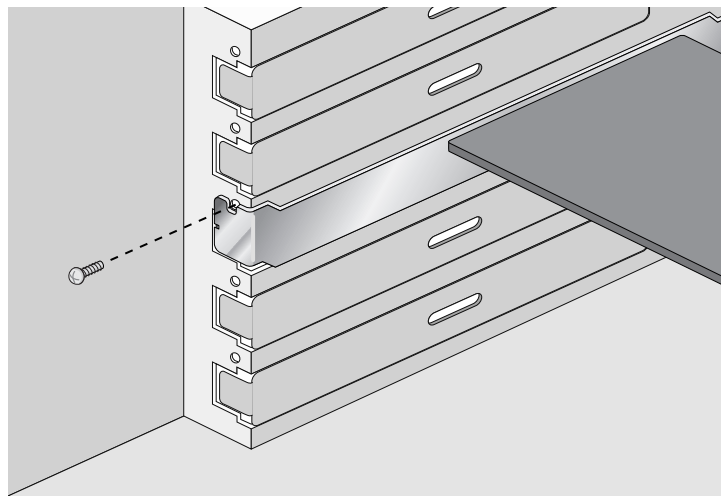

Figure 15. Securing the Network Adapter
6. Secure the network adapter to the chassis with a Phillips-head screw (not provided) as shown in Figure 15.